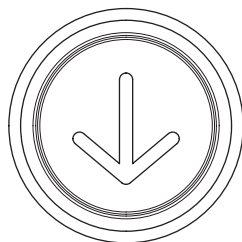

Fig. 12
- Power on / measure button, see Fig. 12.